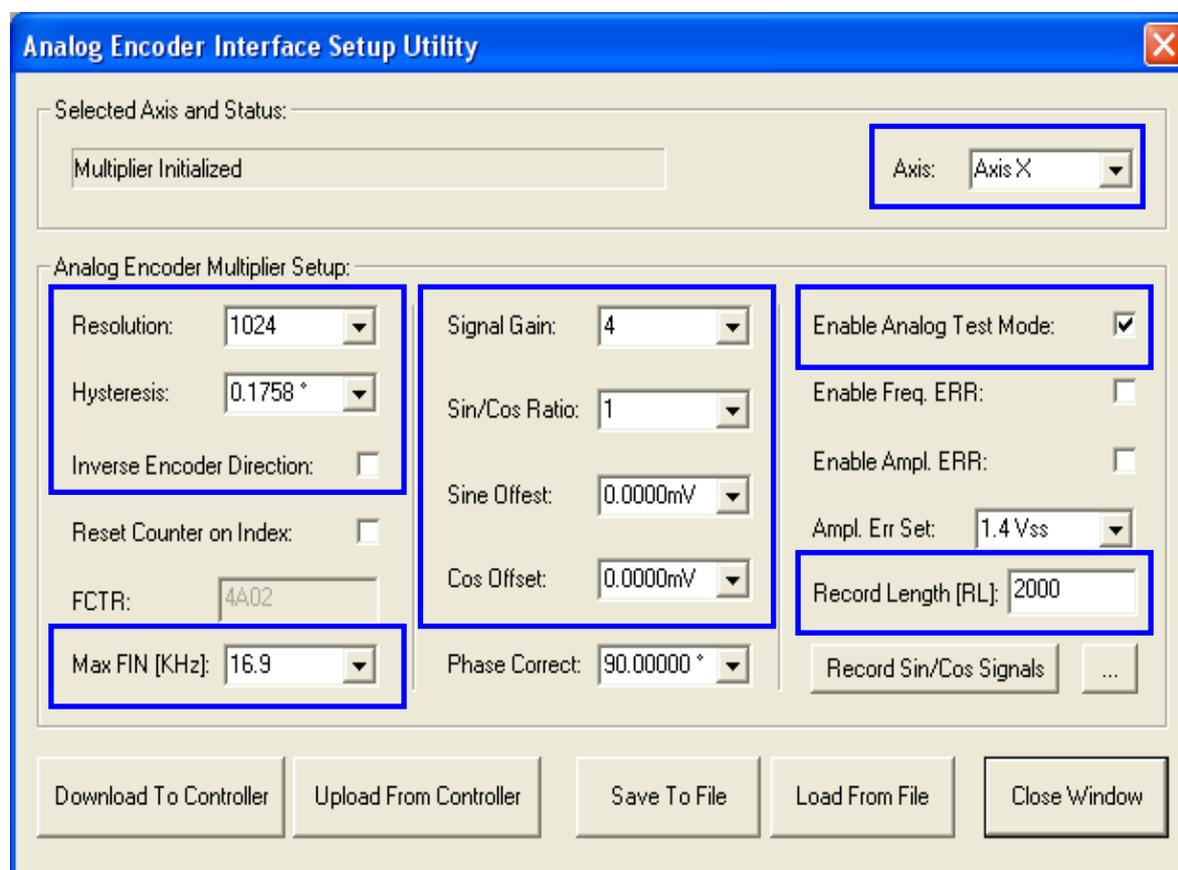

Figure 18: Analog Encoder Interface Setup Utility Dialog Box
Perform the following steps with "Servo OFF", and see Figure 18:
- ◆ In case, it is required to inverse the direction of the encoder select the "Inverse Encoder Direction" check box (see Figure 18).